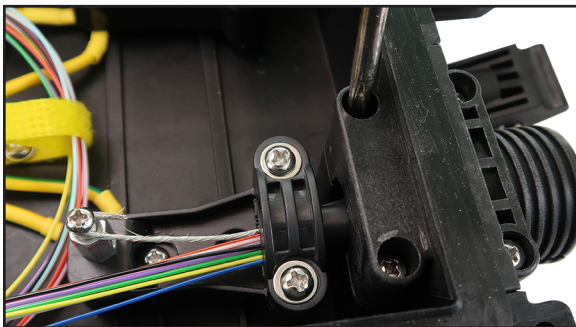

Figure 1-13: Secure the wedge
- 12 Secure the wedge (Figure 1-13).